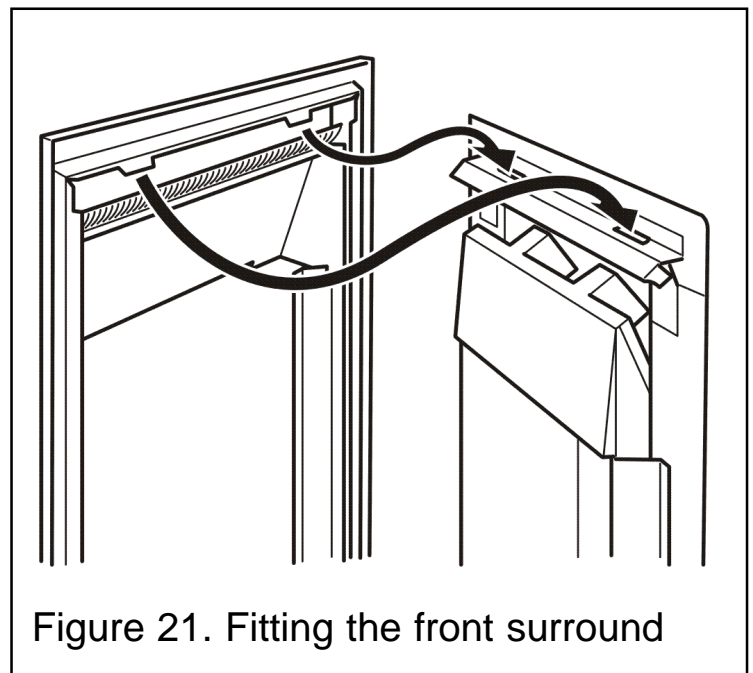

Figure 21. Fitting the front surround
1. Locate the two lugs at the top of the front surround in the slots in the convection box hood. Swing the bottom of the surround sides back against the convection box and lower the surround so that the lugs are fully seated in the slots in the convection box hood (See figure 21).